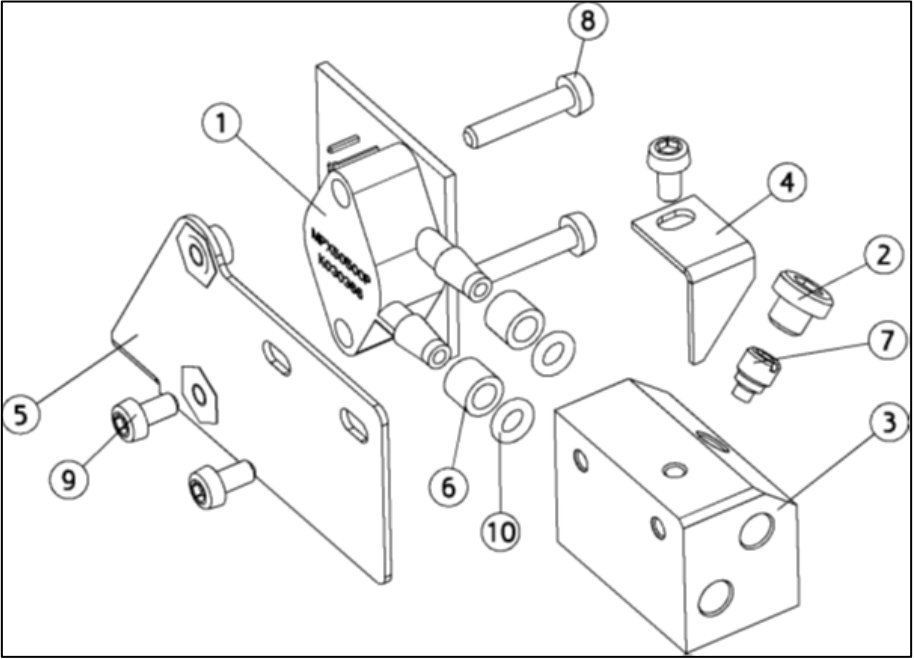

Figure 3
C17	Replace the O-rings (UG-323) inside the flowmeter. See (10) in Figure 3.